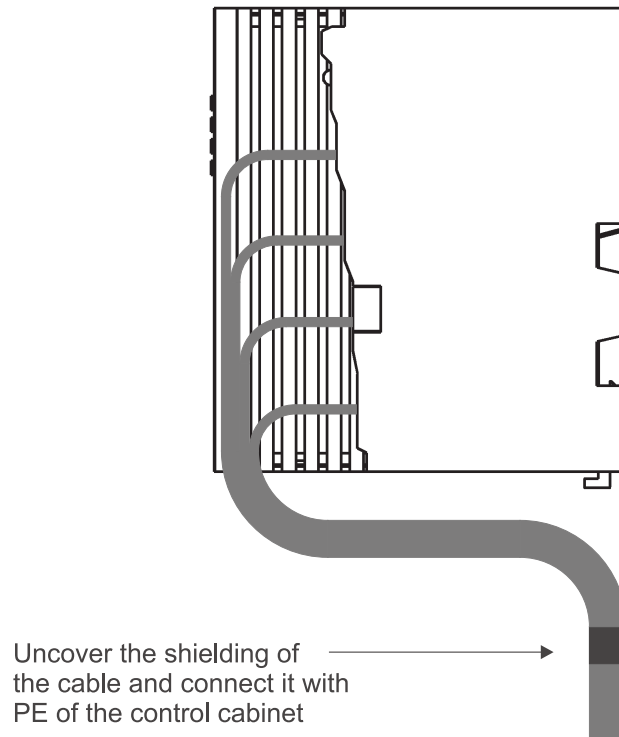

Figure 13: Cable routing
- Lay the connecting lines as stipulated in ►Figure 13◄. First the shielding of the cable must be uncovered. The length of the uncovered shielding should correspond to the width of the cable clamp. The cable is fastened with the clamp so that the shielding and the PE of the control cabinet are connected electrically.